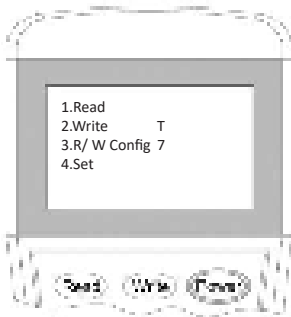

Figure 12
2. Switch-on the programming tool, then press button **"3"** to enter to **Configuration mode** (Figure 12).